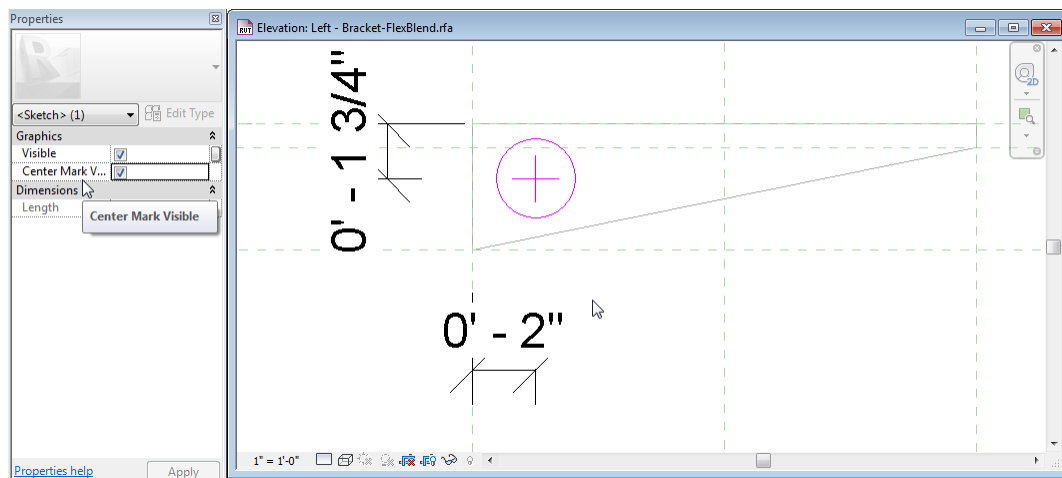

Figure 22
6. Add a second dimension from the Back reference plane to the center of the circle at: **2"** away (see Figure 22).